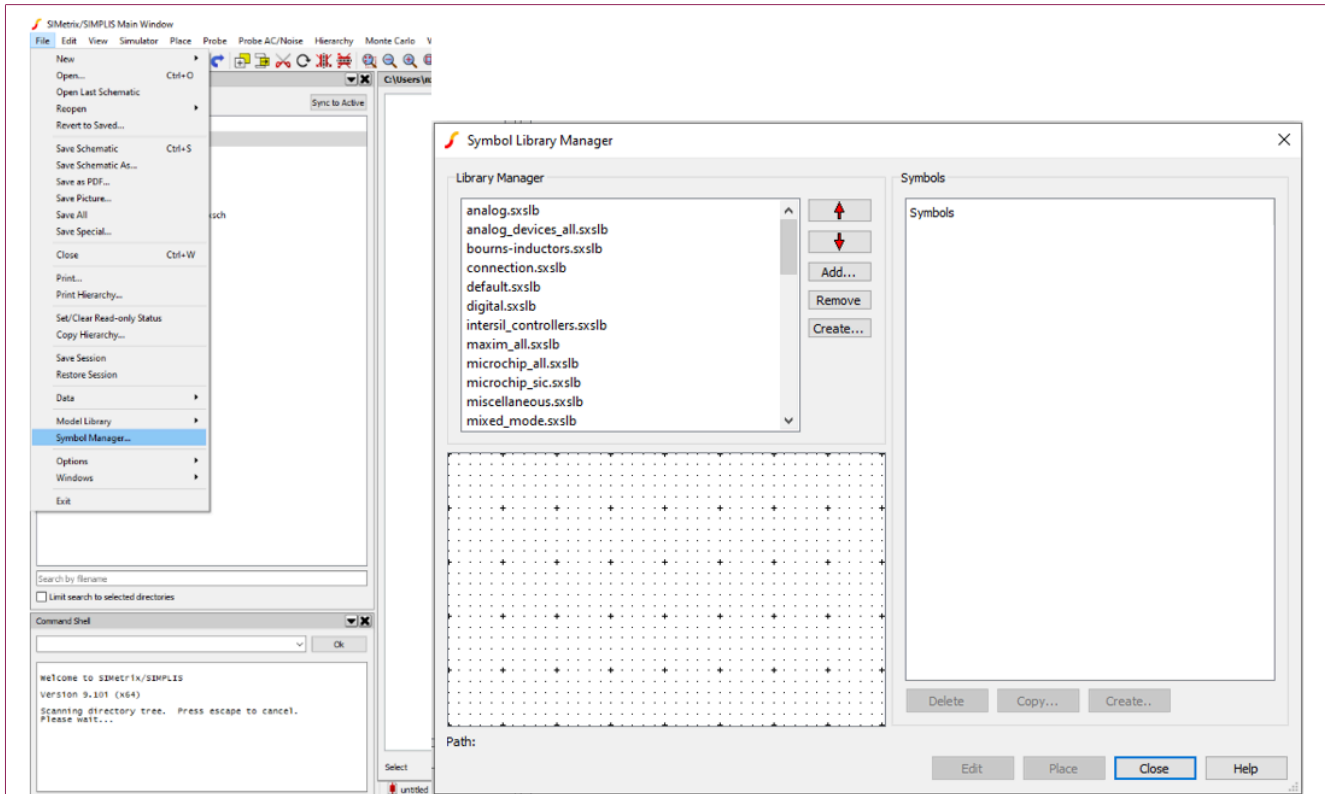
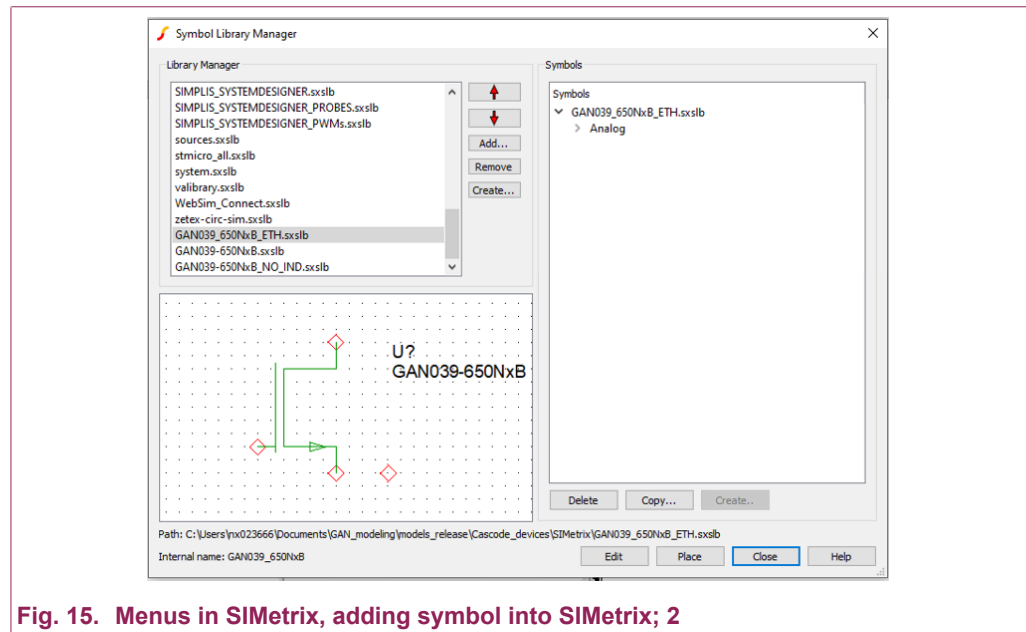

Fig. 14. Menus in SIMetrix, adding symbol into SIMetrix
Fig. 15. Menus in SIMetrix, adding symbol into SIMetrix; 2
- Import Symbol file: File -> Symbol Manager -> Add -> Select *.xslb File -> Ok (or use file dragging as in previous step). see Fig. 14 and Fig. 15: